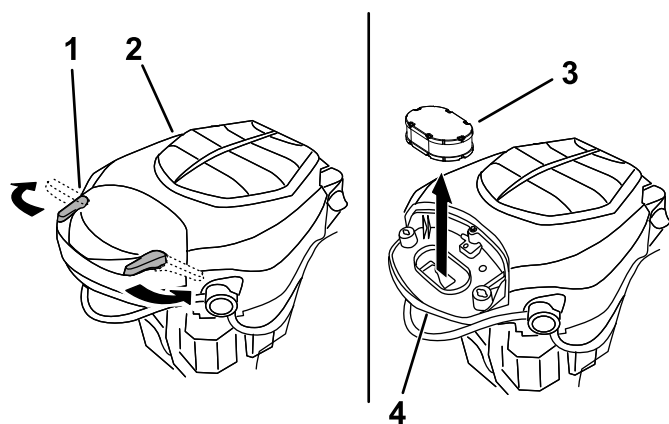

Figure 38
- Install the cover and secure it with the latches (Figure 38).